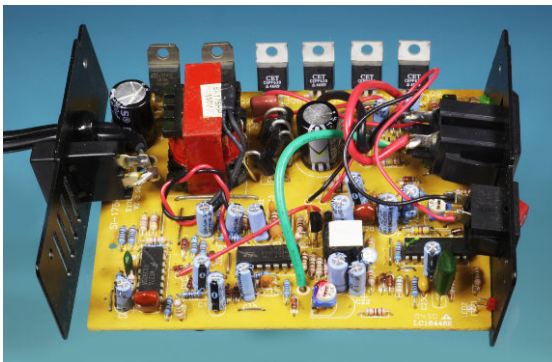

Figure 18-1. The interior components in a 175-watt inverter.
A power inverter is included here as counterpoint to a **power supply** or *AC adapter*, since it has the opposite function. The inverter receives an input of *direct current* (typically 12VDC from a car battery) and delivers an output of *alternating current* (AC) in the range 110VAC-120VAC or 220VAC-240VAC, suitable to power many low-wattage appliances and devices. The interior of a low-cost inverter is shown in Figure 18-1.